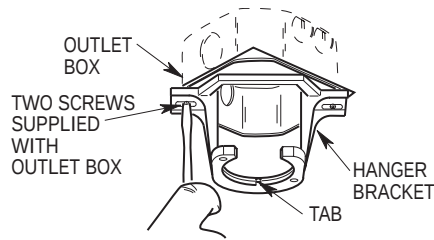
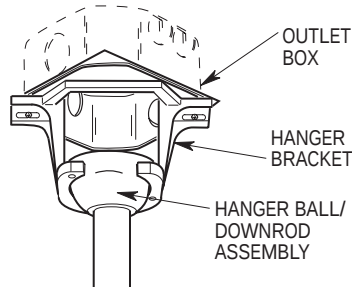

Figure 16
Figure 17
- 1. Securely attach the hanger bracket to the outlet box using the two screws supplied with the outlet box (Figure 16).
- 2. Carefully lift the fan and seat the hanger ball/downrod assembly on the hanger bracket that was just attached to the outlet box (Figure 17). Be sure the groove in the ball is lined up with the tab on the hanger bracket (Figure 16).